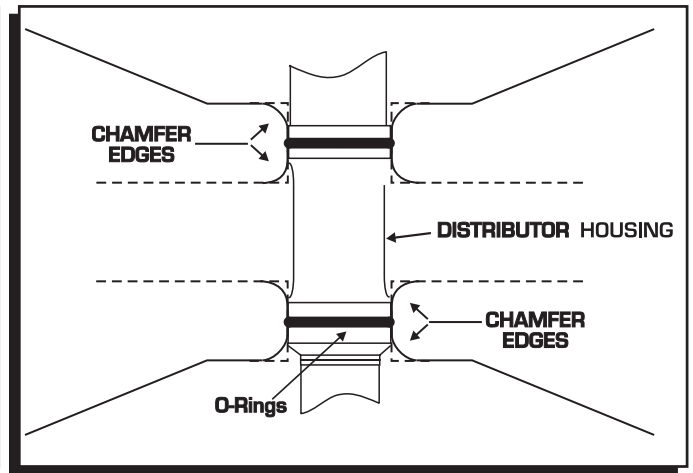

Figure 3 Modified Block for use with O-Rings.
7. Install the gasket and apply a liberal amount of the supplied lubricant to the distributor gear. (The supplied O-rings can **only** be used if the block has been modified as shown in Figure 3.)